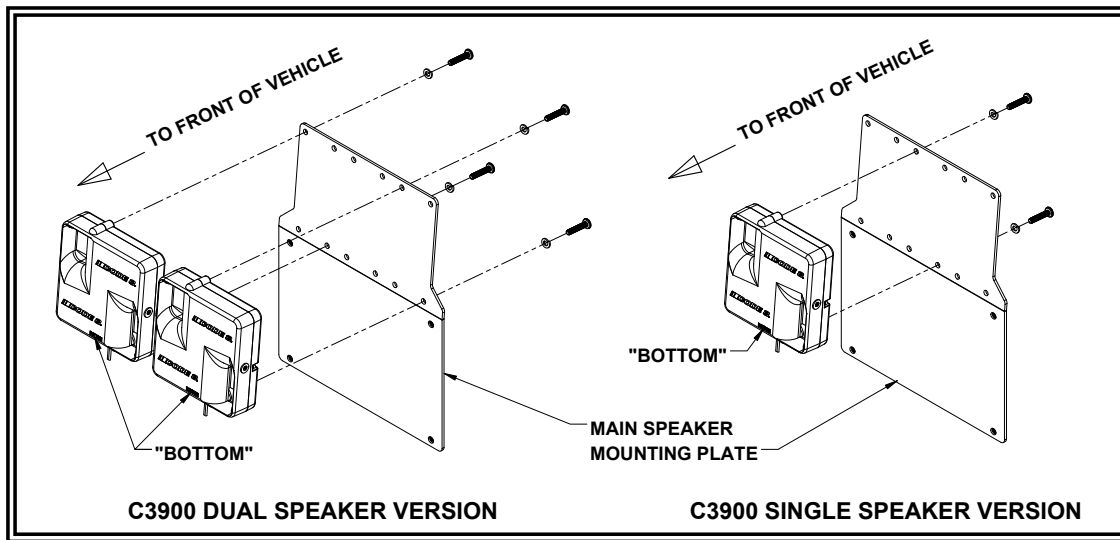

Figure 4
Step 2. Install the single or dual speakers to the Speaker Mounting Plate by threading two (2) 1/4"-20 X 1 1/4" Phillips pan head machine screws with two (2) 1/4" split lock washers for each speaker body through the holes in the main bracket and into the threaded holes in the back side of the speaker body (See Figure 4). Tighten the screws until the lock washers fully flatten out but do not over tighten.
Note: Make sure the speakers are mounted in the correct orientation with the word "BOTTOM" at the bottom of the assembly (See Figure 4 for correct speaker orientation). Caution: Severe damage could occur to the speaker if it is not mounted in the proper orientation.